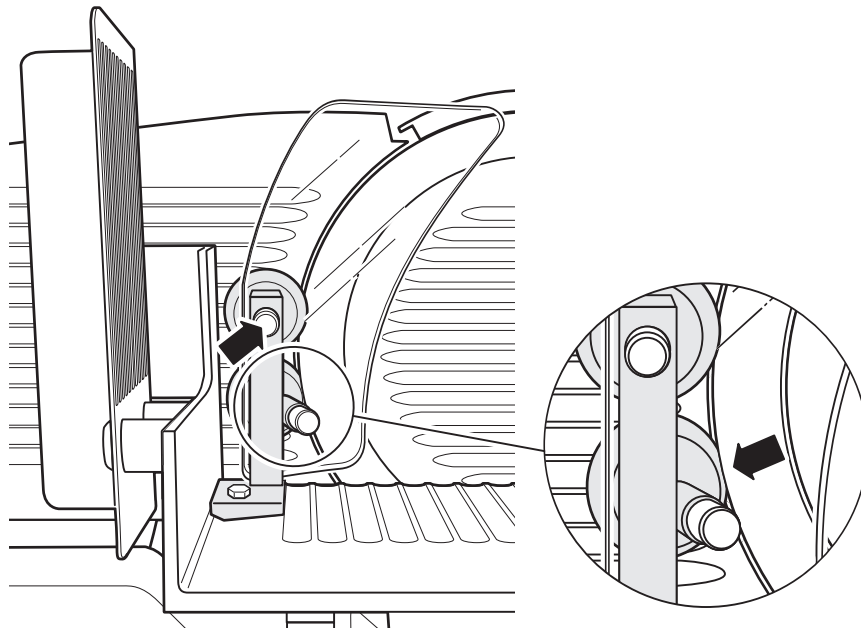

Fig. 14
4. Carefully guide the grinder mounted on the food carriage to the blade. Ensure that the lower grinding stone is guided on the left side past the blade edge (see Fig. 14).